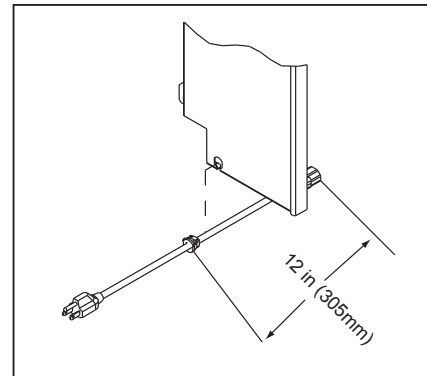

Figure 21.2
7. If power enters the appliance on the right side: Using the pliers, attach cord restraint 12 inches from the female end of the cord and then press into the right side panel. **Figure 21.2.**
7. If power enters the appliance on the right side: Using the pliers, attach cord restraint 12 inches from the female end of the cord and then press into the right side panel. **Figure 21.2 on page 21.**